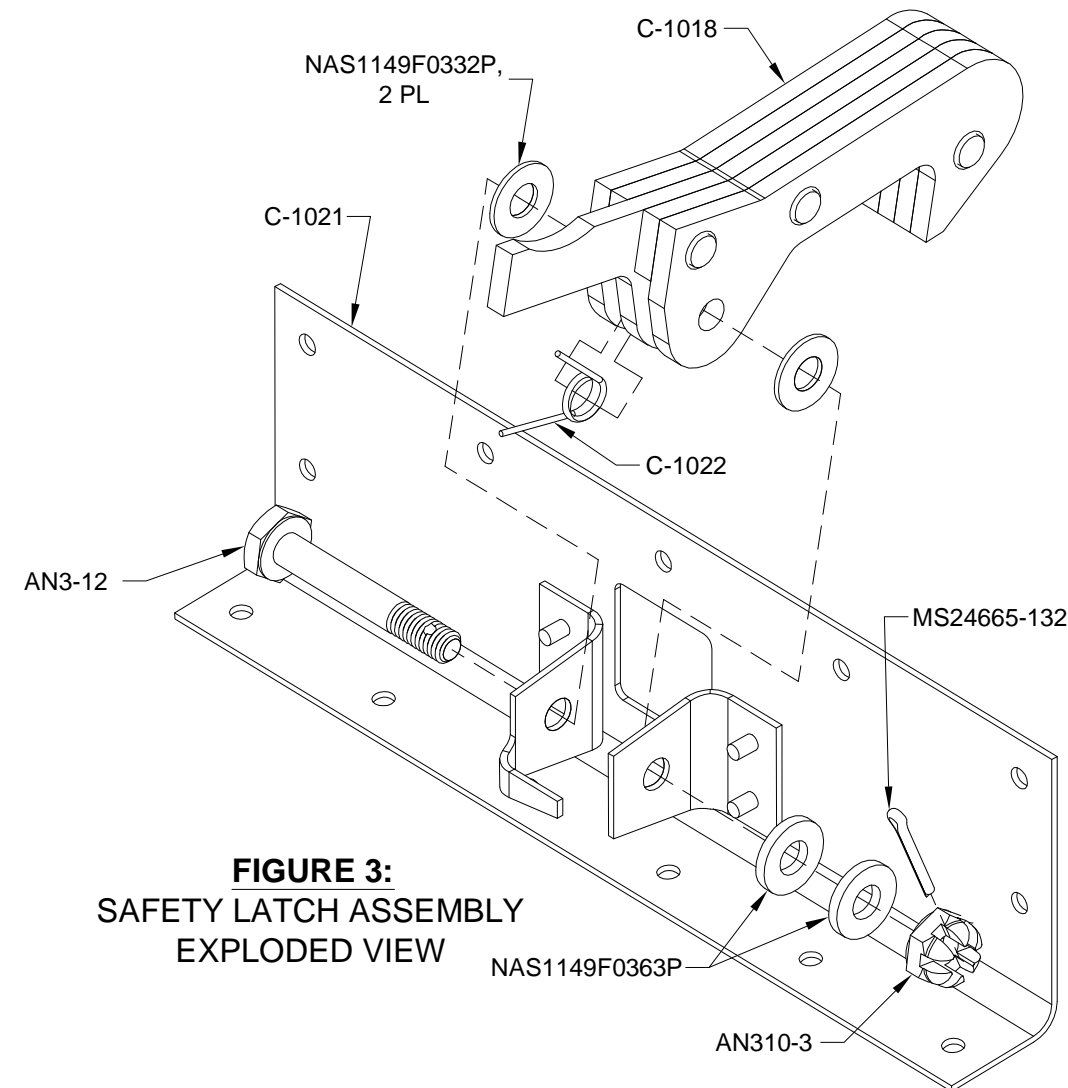

FIGURE 3:
Step 3: Assemble the C-1018 Safety Latch Assembly and C-1022 Spring to the C-1021 Latch Angle Assembly as shown in Figure 3. The assembly just created will subsequently be referred to as the Safety Latch Assembly.
The "explosion" of Figure 3 shows the parts in their "as-assembled" orientation. To get the parts together, the safety latch assembly must be inverted as the "hook" end is inserted through the opening in the latch angle assembly then, when the thinner part of the safety latch assembly is at the opening, it can be re-oriented right-side-up, the spring put in place, then finally positioned such that the bolt, washers, and nut can be installed. If the safety latch assembly cannot be re-oriented right-side-up due to interference with the latch angle opening then the edges should be rounded as necessary to allow rotation.
Remove the safety latch assembly and enlarge the slot in the door as required until the safety latch assembly pivots freely through the full range of motion allowed by the latch angle. See Page 45A-07, Figure 3 for a depiction of the finished slot.